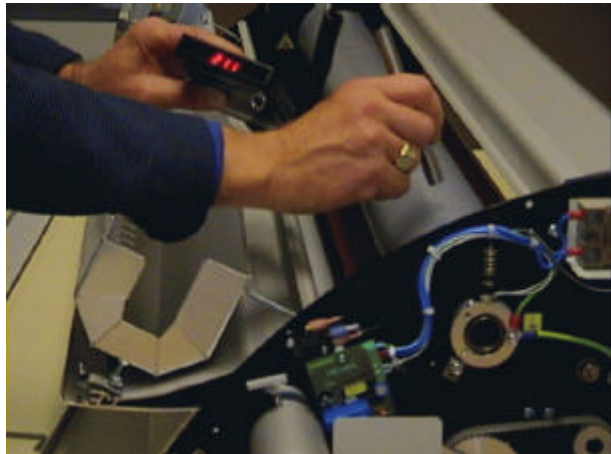

fig. 40
1. Before taking a temperature measurement, the top cover has to be closed for at least 5 minutes. To do the measurement: open the top cover, and quickly measure the temperature of the top side of the top roller; **close to the middle of the machine.** See figure 40.